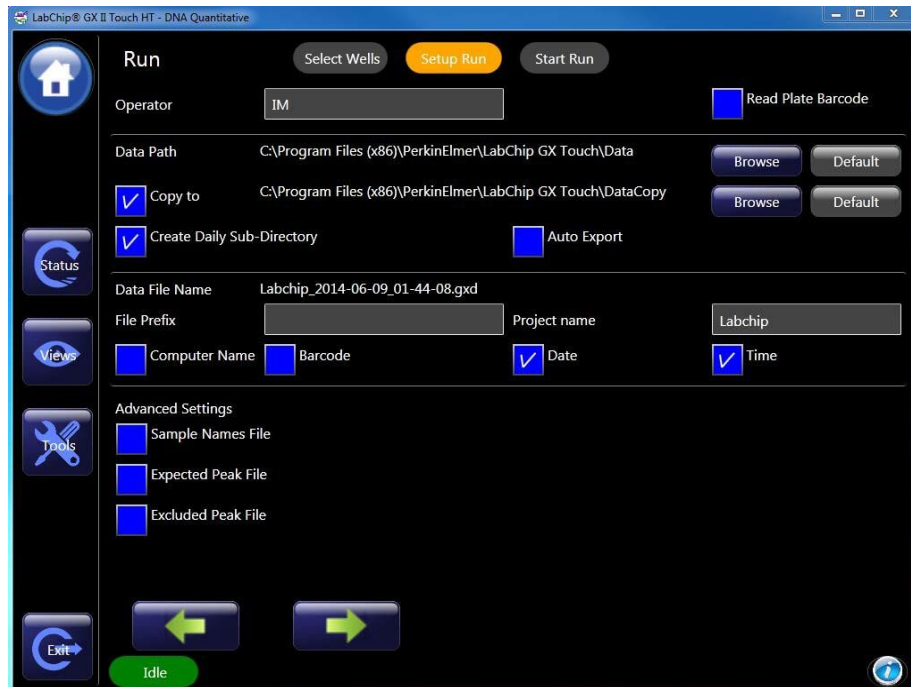

Figure 12. Setup Run Tab
- 4 Touch the **Green Arrow** button. The Setup Run tab (Figure 12) opens.